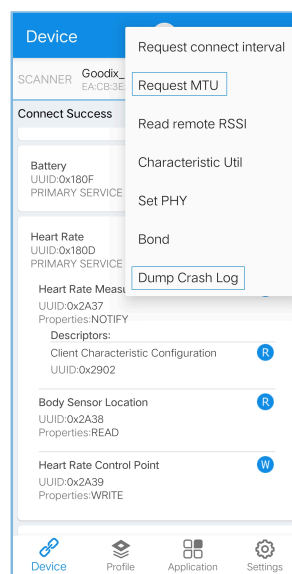

Figure 3-4 To set MTU and read crash logs
2. Tap  in the upper-right corner; choose **Request MTU** to set the value to **512**, and then choose **Dump Crash Log**, as shown in Figure 3-4.